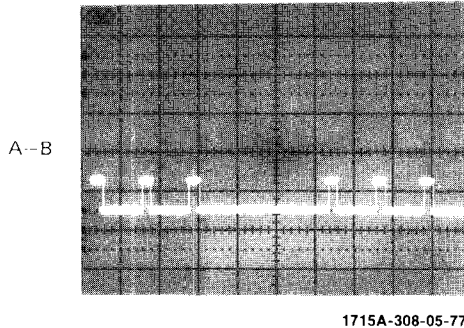

Figure 18. Resultant Display
6. With either the channel A or B VOLTS/DIV vernier, adjust for minimum deflection in the common-mode signal. The resultant display will either subtract all of the unwanted component or display the desired signal larger than the common-mode signal. See figure 18.